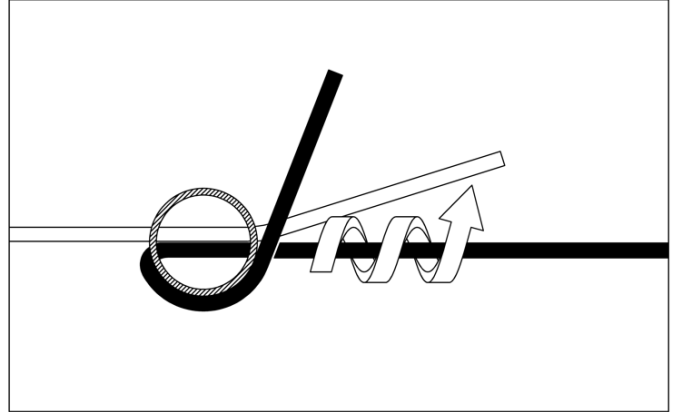

Fig 10. Wrap the first wire around itself.
3. Terminate the first wire by wrapping it around itself. (Figs 10 and 11).